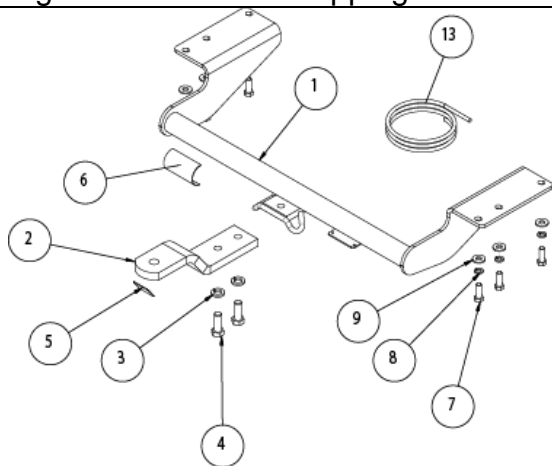

Figure 3 – Locate the towbar on the vehicle.
2. Locate the towbar on the vehicle, and used the relevant fasteners, as shown in Figure 3.